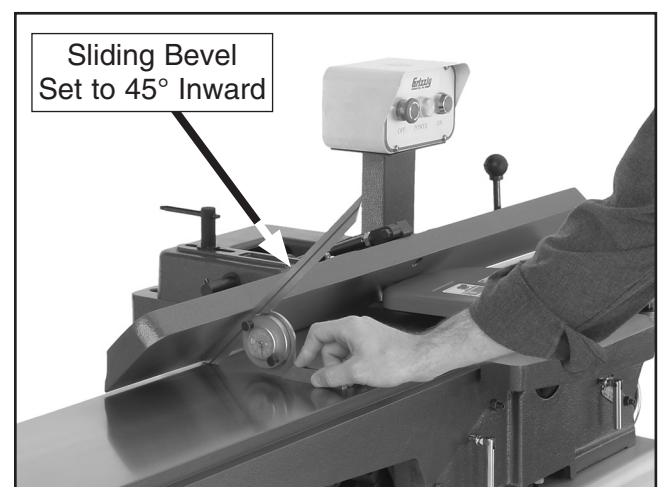

Figure 60. Example of adjusting fence to 45° inward.
- Place sliding bevel set to 45° against fence and table, as shown in **Figure 60**.